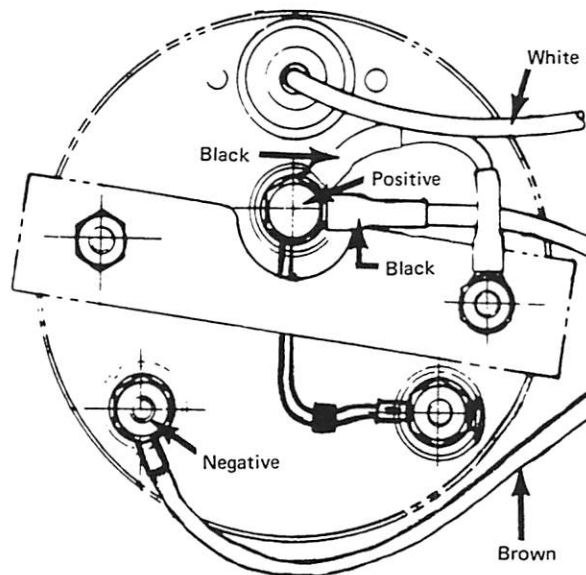

Figure 4. Tachometer Terminals
1. Connect terminal end of brown lead to lower left terminal of tachometer. Connect terminal end of black lead from tachometer wiring harness opposite end of short black lead to center terminal of tachometer. (Figure 4)